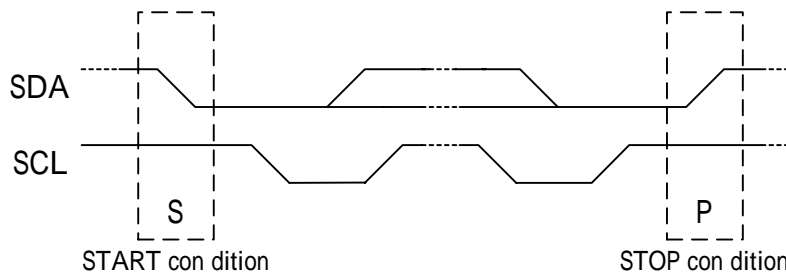

Fig .4 Definition of START and STOP conditions
Both data and clock lines remain HIGH when the bus is not busy. A HIGH-to-LOW transition of the data line, while the clock is HIGH is defined as the START condition (S). A LOW-to-HIGH transition of the data line while the clock is HIGH is defined as the STOP condition (P). The START and STOP conditions are illustrated in Fig.4.